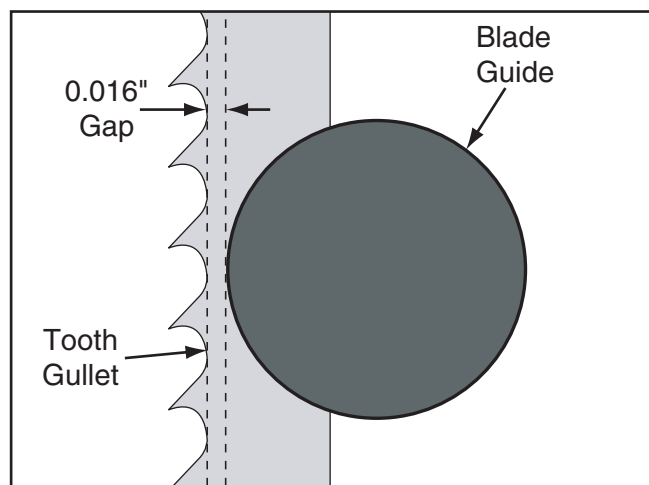

Figure 52. Correct guide alignment behind the teeth gullets.
5. By hand, slide the guide block to position the blade guides approximately 0.016" behind the teeth gullets (see **Figure 52**), then re-tighten the guide block cap screw to secure the setting.